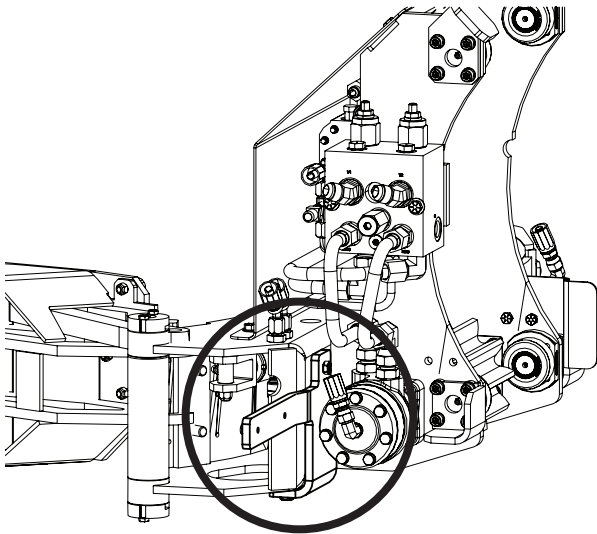

Figure 9
16. Install the new hydraulic tube clamp bracket (P/N 1561880) (the new part is straight; whereas the old part had a manufactured offset bend) using the retained hardware with Loctite (Figure 9). Tighten until tight.